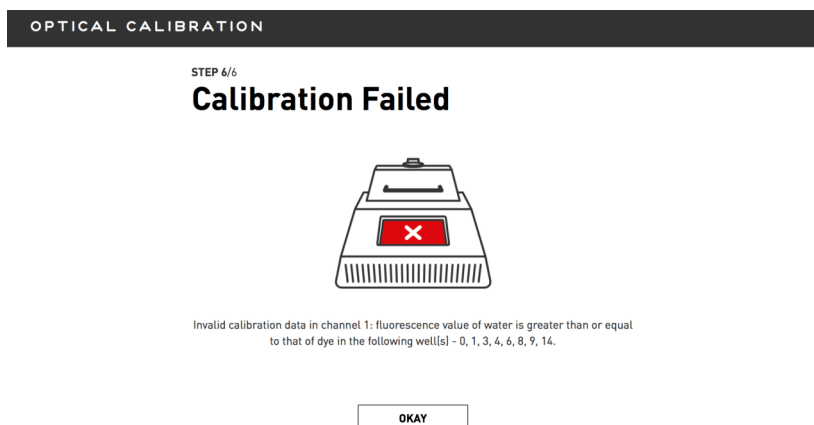

Figure 3.10
10. If calibration fails, **Calibration Failed** will be displayed on the screen (Figure 3.10). Repeat the calibration process in such instances. If failure persists on repeat, contact Technical Support.